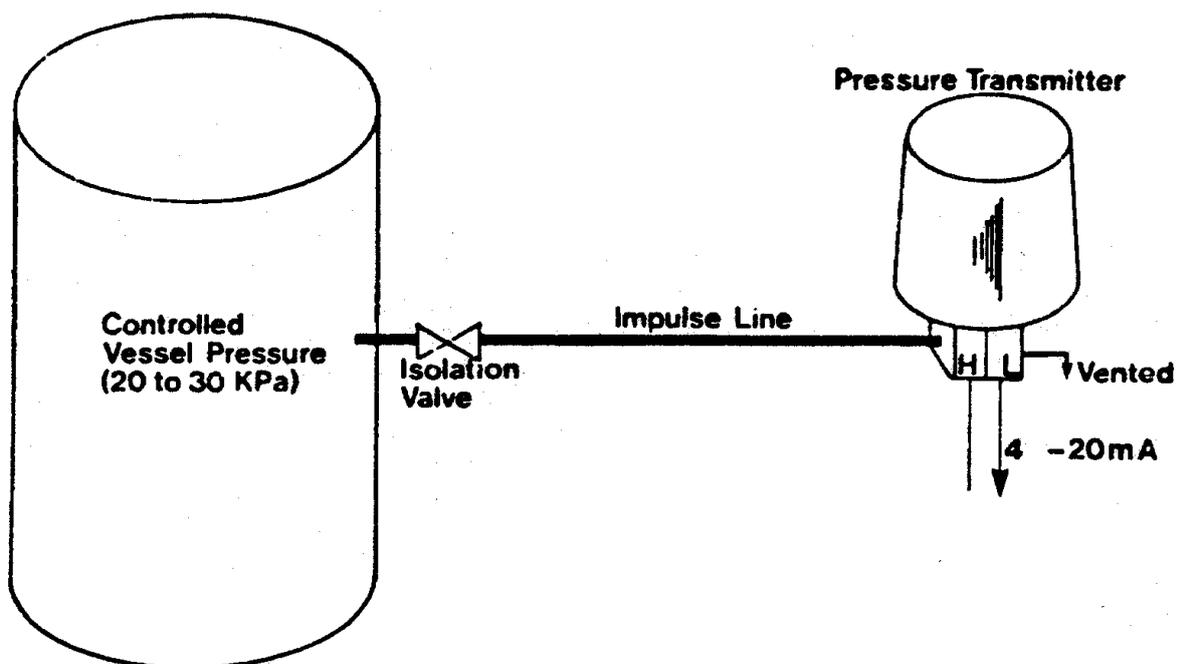

Figure 4: A DP Transmitter low pressure measurement application.
- A typical DP transmitter installation for low pressure sensing is shown in Figure 4.